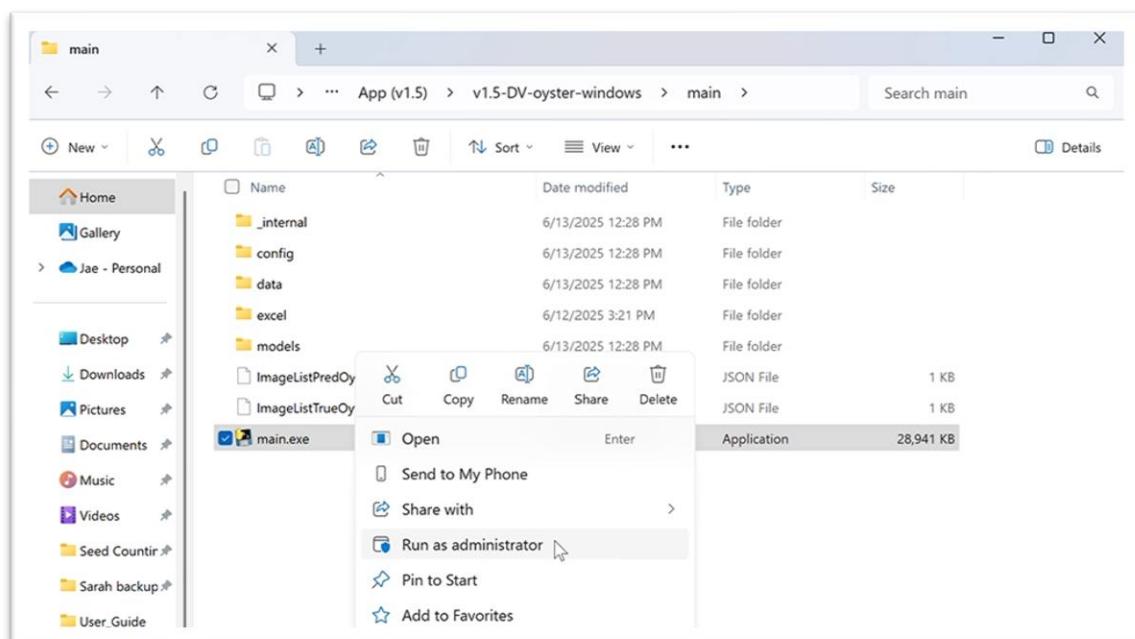

Figure 1.6. Running the software as an administrator.
7. Go back to the folder you saved the “v1.5-DV-oyster-windows.zip” file in. There should now be a folder called “v1.5-DV-oyster-windows”. Open that folder and then open the “main” folder within. Inside you should see the files shown Figure 1.6. Create a new folder called “images” in the main folder to load future subsample images. Inside the images folder, create a new folder called “annotations” to store the future images the software has analyzed.
8. Right click on “main.exe” and click “Run as administrator (Figure 1.6).